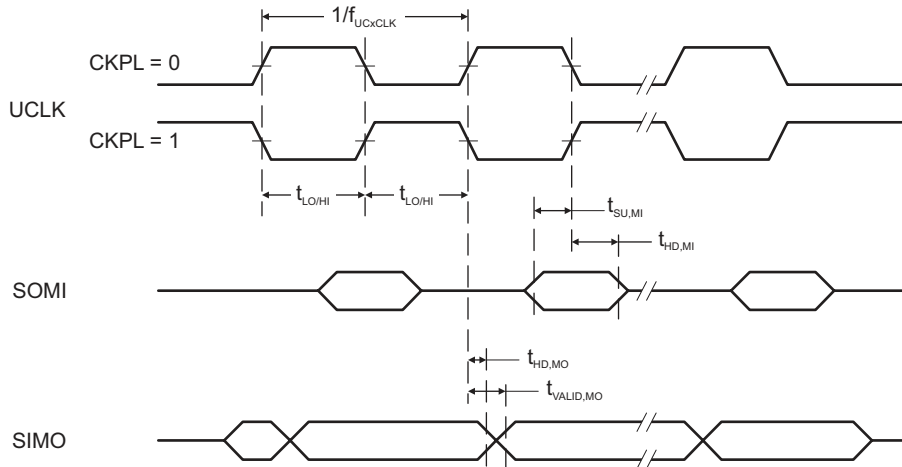
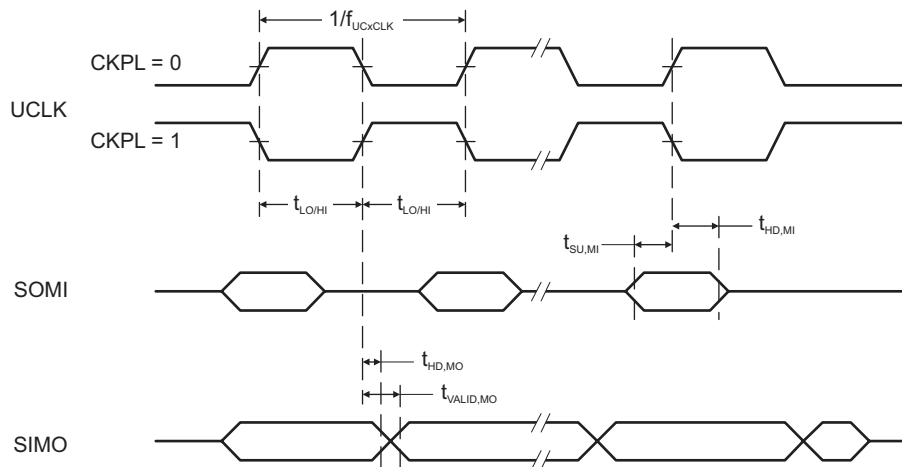

Figure 5-13. SPI Master Mode, CKPH = 0
Figure 5-14. SPI Master Mode, CKPH = 1
(see Figure 5-13 and Figure 5-14)
- (2) Specifies the time to drive the next valid data to the SIMO output after the output changing UCLK clock edge. See the timing diagrams in Figure 5-13 and Figure 5-14.
- (3) Specifies how long data on the SIMO output is valid after the output changing UCLK clock edge. Negative values indicate that the data on the SIMO output can become invalid before the output changing clock edge observed on UCLK. See the timing diagrams in Figure 5-13 and Figure 5-14.